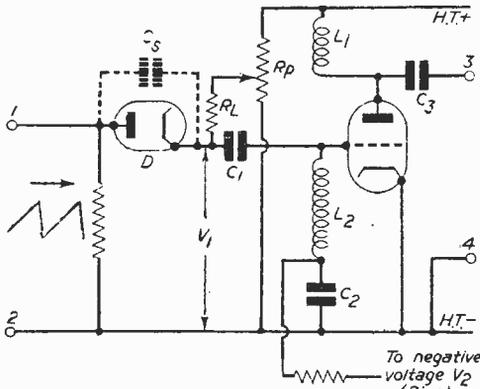

Fig. 1.— Multi-triode circuit for the production of marker pips.
**Method 1.**—Figure 1 shows the multi-triode pick-off circuit and blocking oscillator which may be used to give the variable marker pip. The timebase voltage supplied from the oscilloscope is applied
In the circuit shown in Fig. 1 the diode D will remain non-conducting until the input voltage becomes equal to the voltage  $V_1$  which can be adjusted by the potentiometer  $R_p$ . When the voltage between points 1 and 2
For the purposes of this article, a medium-sized service department is taken for reference, or a department that will handle approximately 12 television sets a week (for service in the department). Fig. 1 gives a layout which, of course, need not be strictly adhered to, but is only intended as a guide. The main point to observe is that there are positions at the bench for specific jobs. This should be adhered to, otherwise the organisation falls apart. Note the position for unboxing and reboxing sets and arrange-
Fig. 1.—Suggested bench layout for a service workshop. The arrangement of the power points below the bench edge may be as shown in Fig. 2, with a 13 or 15 amp. input plug for the mains. See also the article on p. 465.